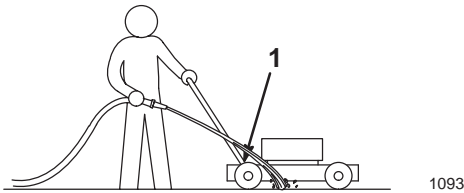

Figure 17
3. Hold the running garden hose at handle level and direct the water to flow on the ground just in front of the right rear wheel (Fig. 17).